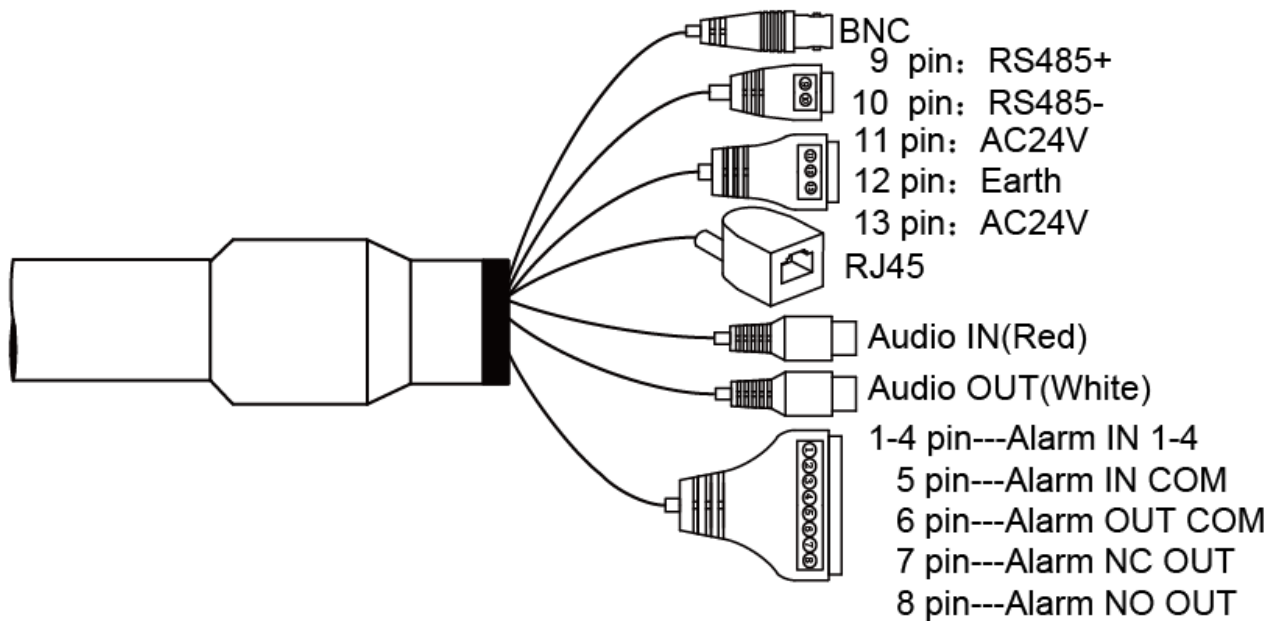

Figure 10
4. System wire descriptions as figure 10 shows.